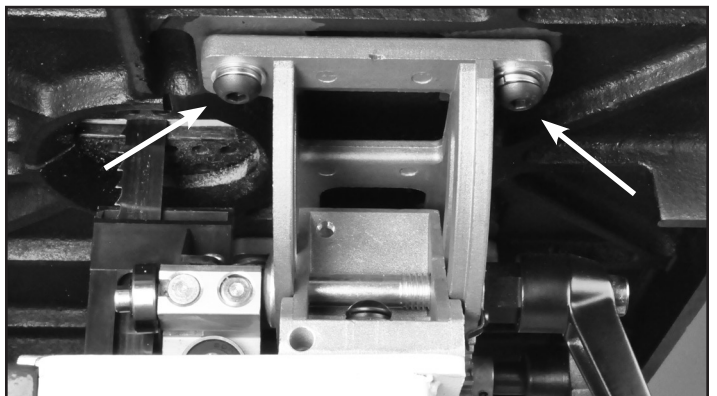
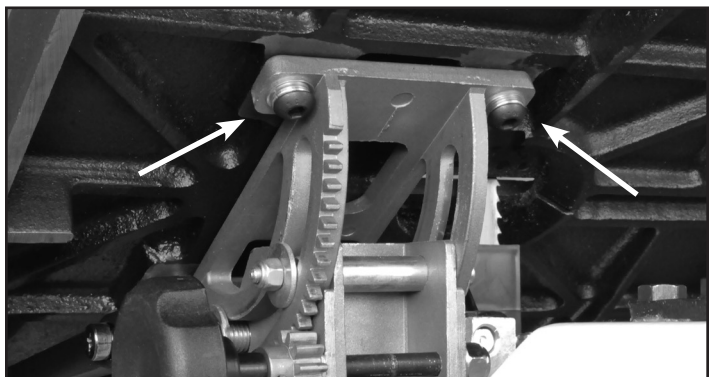

FIGURE 2
FIGURE 3
3. Attach the table to the trunnion with the four Hex Socket Cap Screws, Spring Washers and Washers (Parts #11B, 10B, 9B). Install two bolts to the right of the blade, hand tightened only. Fig. 2. Then tip the table to 45 degrees and install the two bolts to the left of the blade. Fig. 3. **DO NOT** fully tighten the bolts at this time. Return the table to the horizontal position.